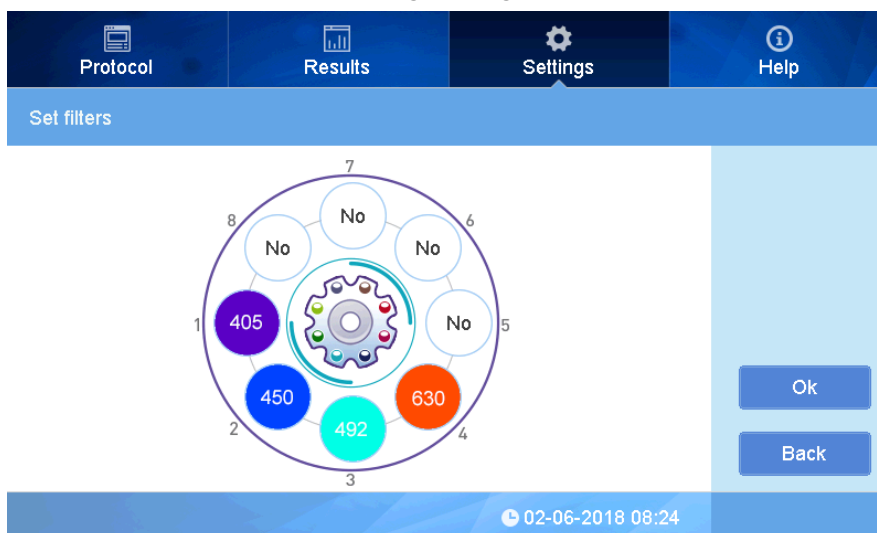

Fig 48
- ① Click the Filter icon in interface of setting, see Fig 48.